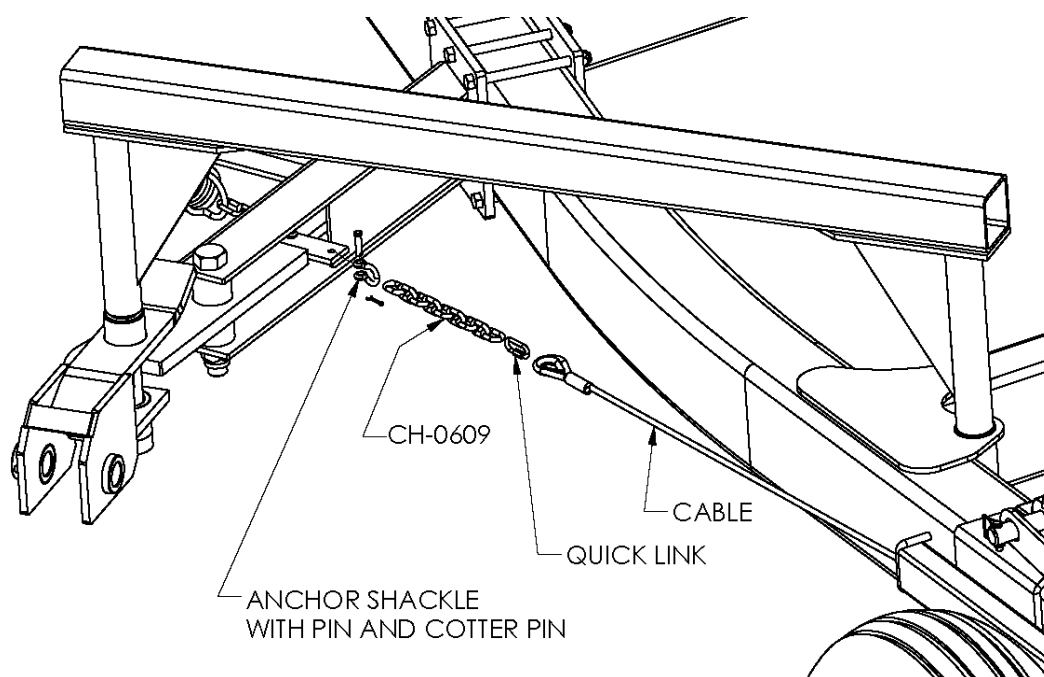

Figure 22
3. Connect a 9-link chain to the other end of the cable with a quick-link. Refer to Figure 22.